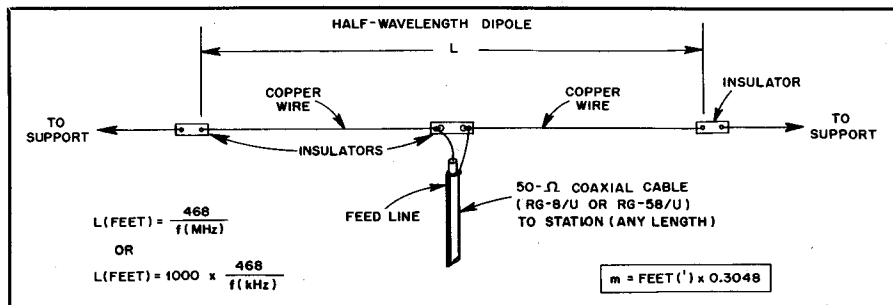
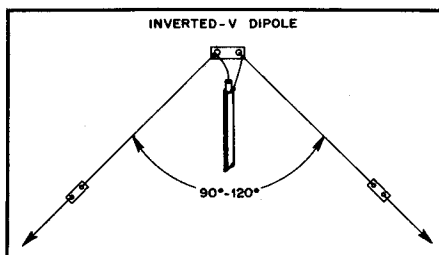

Fig. 1 — Details of a dipole antenna that is ½-wavelength long electrically. This is often a new amateur's first antenna.
Fig. 2 — A variation of the dipole in Fig. 1. Only one supporting structure is needed for this antenna.
Some antennas need no matching device to work correctly with the station equipment. A popular example is the dipole antenna (also called a "doublet" by some hams). If cut to the proper length, it will exhibit an impedance that is close to 50 ohms. All that we need to do is connect it to the station gear through a length of 50-ohm coaxial cable. Fig. 1 illustrates this style of antenna. It is perhaps the most common "first antenna" for new amateurs. The overall length is  $\frac{1}{2}$  wavelength at the favored operating frequency.
For example, suppose you are a Novice and want to start operating in the 80-meter Novice band (3700 to 3750 kHz). You would want to cut the antenna for the center of that band (3725 kHz). Using the formula in Fig. 1 you would have a length (L) of 125.63 feet, or 125 feet  $7\frac{1}{2}$  inches.2 The feed line would be connected at the exact center of the wire, as shown.
A common variation of this antenna is shown in Fig. 2. What we have here is a drooping dipole, or "inverted V." The formula for length is the same as for the antenna of Fig. 1. The inverted V needs only one high support (for the center), which makes it simpler to erect. If we cut our dipoles to the operating frequency, they are said to be "resonant," and this is desirable. When an antenna is resonant, the feed point looks like a pure resistance to the feed line. If it is not resonant, we will encounter a component known as "reactance," and it can make our antenna difficult to match to the feed line. Ideally, the reactance should be tuned out or canceled by means of a matching circuit. A detailed description of reactance can be found in *The ARRL Antenna Book*.
One way to avoid this problem is to use what is called a multiband dipole. Not only can we deal with the limited bandwidth by tuning the feed line, we can operate on many amateur bands with a single dipole erected as shown in Fig. 1 or 2. The main difference is in the type of feed line we use, plus the addition of a matching circuit in the radio room.
Fig. 5 — Two versions of the 1/2-wave wire antenna. In each example, the wire is cut to an electrical 1/2 wavelength in accordance with the formula in Fig. 1, using the lowest anticipated operating frequency in the calculation. A Transmatch is used to match the feed line to the station equipment.